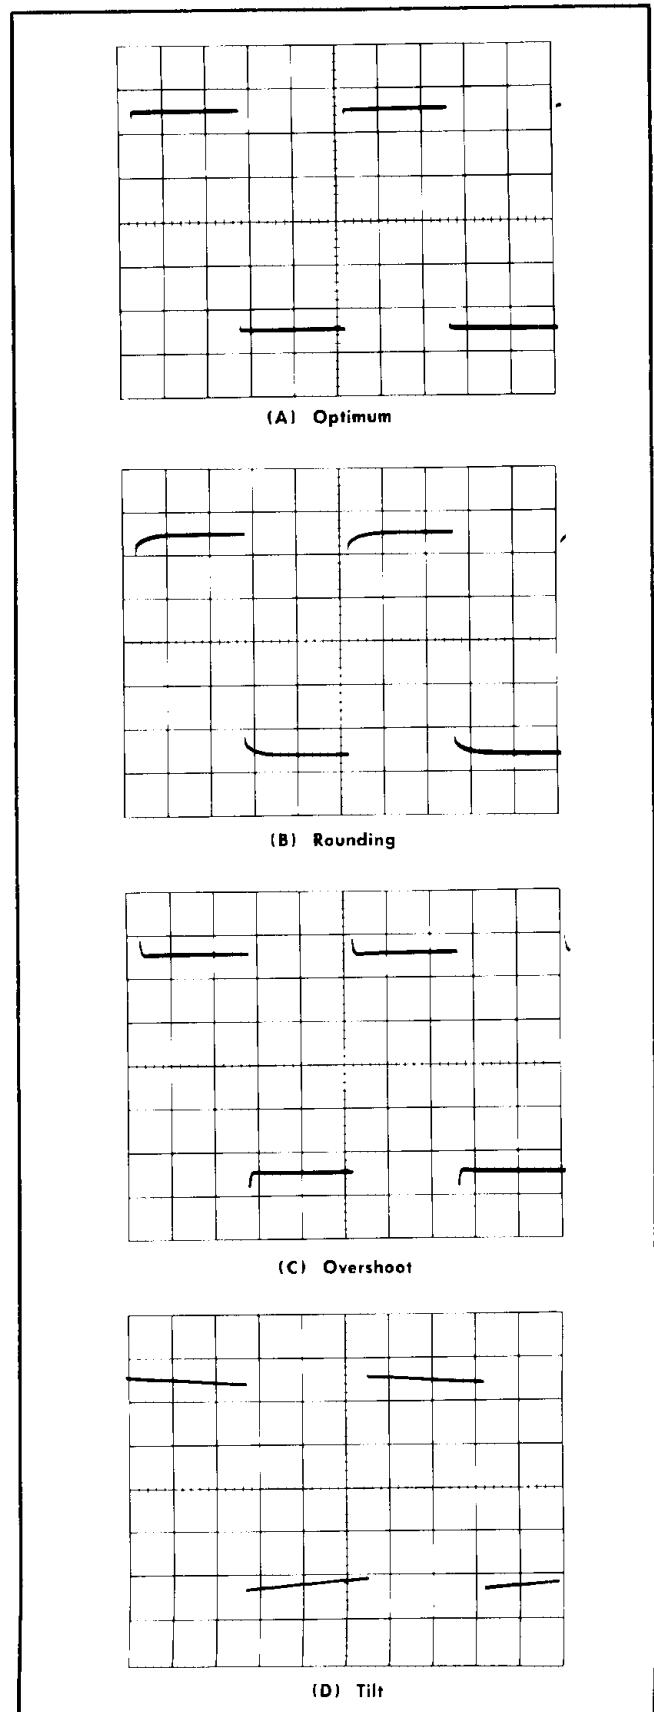
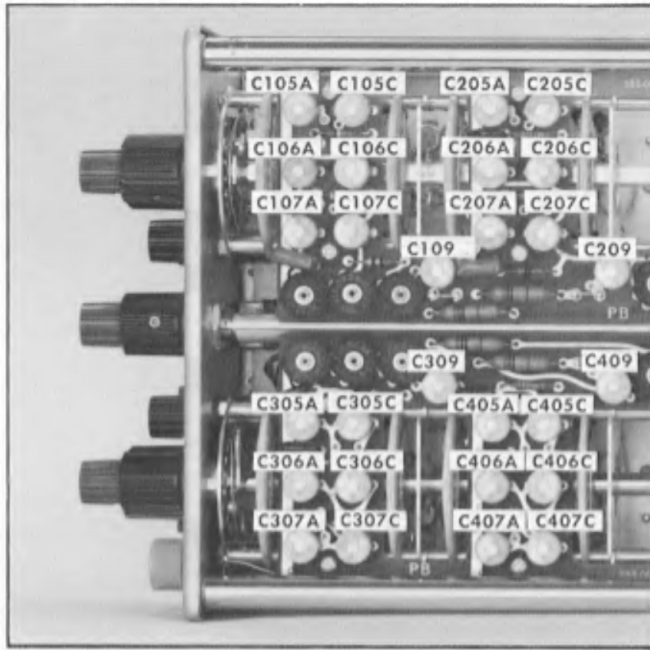

Fig. 6-13. Photographs of waveforms as it may appear when adjusting the input capacitance or attenuator compensation adjustments.
Fig. 6-14. Location of channels 1 and 2 input capacitance and attenuator compensation adjustments.
- d. CHECK—Displayed waveform; should appear similar to the waveform shown in Fig. 6-13.
- e. ADJUST—See Table 6-3 and Fig. 6-14 for appropriate component number and location to be adjusted for a square-wave display having an optimum front corner and minimum tilt (two separate adjustments in most VOLTS/DIV switch positions), see Fig. 6-13.
- k. CHECK—Displayed waveform; should appear similar to the waveform shown in Fig. 6-13.
- l. ADJUST—See Table 6-3 and Fig 6-14 for appropriate component numbers and locations which should be adjusted for a square-wave display having an optimum front corner and minimum tilt; see Fig 6-13.
d. CHECK—Displayed waveform; should appear similar to the waveform shown in Fig. 6-13.
e. ADJUST—See Table 6-3 and Fig 6-14 for appropriate component number and location to be adjusted for a square-wave display having an optimum front corner and minimum tilt. See Fig 6-13.
k. CHECK—Displayed waveform; should appear similar to the waveform shown in Fig 6-13.
l. ADJUST—See Table 6-3 and Fig 6-14 for appropriate component number and location to be adjusted for a square-wave display having an optimum front corner and minimum tilt; see Fig 6-13.